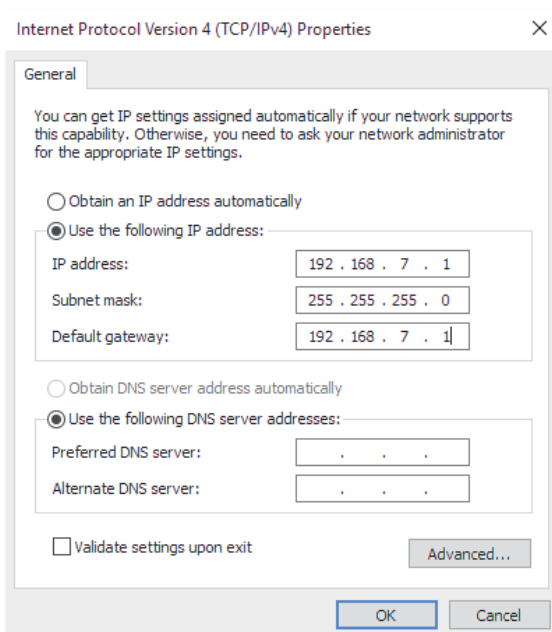

Figure 4-5 - Manual IP v4 settings The actual values for the IP address and Default gateway are arbitrary but must match.
- Using the same (arbitrary) numbers as in the previous section for Macintosh settings enter the numbers you see in Figure 4-5. The subnet mask must be set to 255.255.255.0. The IP address and Default Gateway are arbitrary but must be equal to each other.